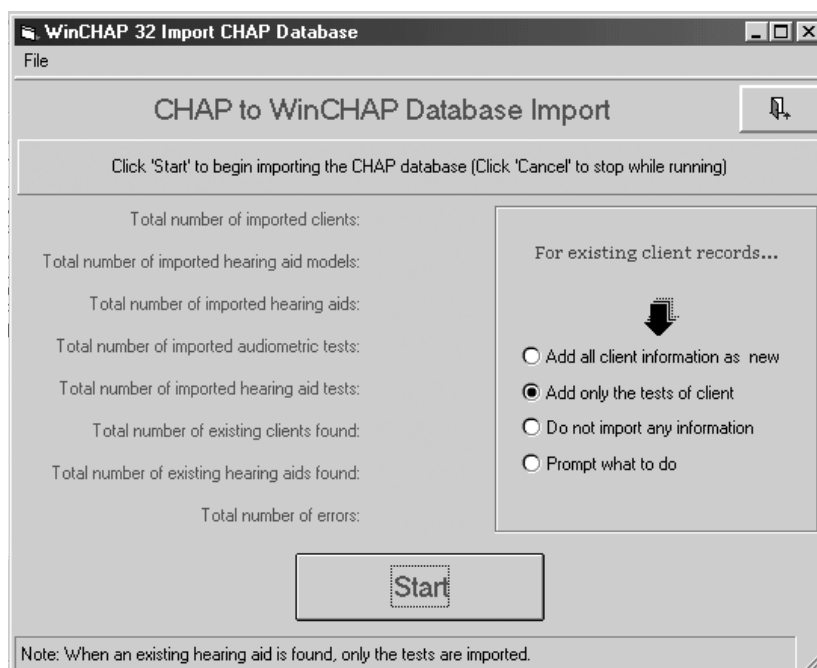

Figure 2.3.5—CHAP Database Import window
3. Click **Run**. This will open the “CHAP Database Import Menu” window that will detail your CHAP database transfer as it happens. See Figure 2.3.5.